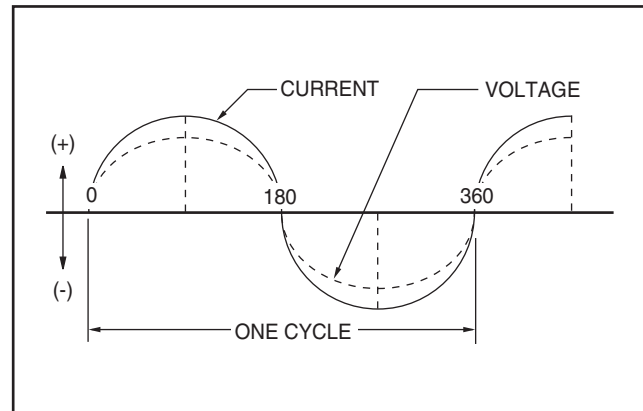

Figure 1-5. – Alternating Current Sine Wave
As the ROTOR turns, its magnetic field cuts across the stationary STATOR. A voltage is induced into the STATOR windings. When the magnet's NORTH pole passes the STATOR, current flows in one direction. Current flows in the opposite direction when the magnet's SOUTH pole passes the STATOR. This constant reversal of current flow results in an alternating current (AC) waveform that can be diagrammed as shown in Figure 1-5.